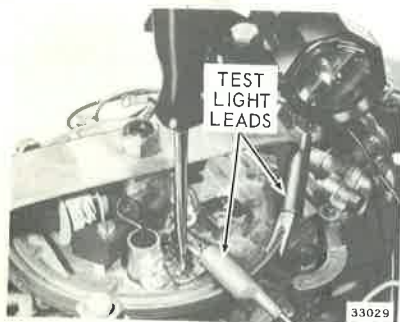

Figure 4-29. Adjusting Breaker Points
e. If timing is not correct, align the timing fixture and the first timing mark. Adjust points until the meter or light indicates a closed circuit. See Figure 4-29.